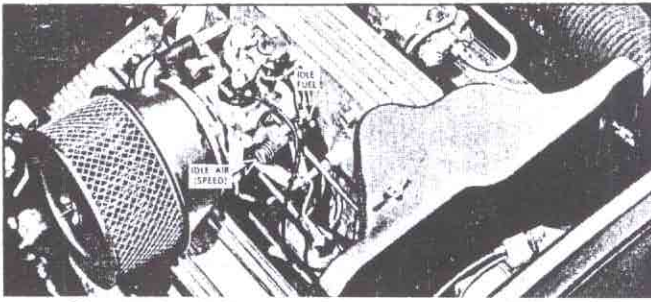

Fig. 116—Adjusting Idle Mixture and Speed
Before attempting to adjust the idle speed and mixture, allow the engine to warm-up so that the throttle tab is completely off of the fast idle cam. If these adjustments are being performed after servicing the Fuel Injection unit, fully close both the idle air and idle fuel adjusting screws (fig. 116), and then back off each screw approximately two(2) turns as an initial setting for warm-up. A tachometer and vacuum gauge should be used to obtain the best possible adjustment.